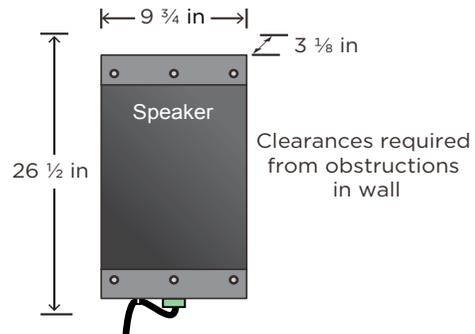

Figure 3.
2. The following clearances are required to install the speaker (with no obstruction from studs or other wall fixtures): (9 3/4 in x 26 1/2 in x 3 1/8 in) (248 mm x 675 mm x 80 mm). See Figure 3 below.
1. Place the Drywall Scoring Template onto the wall or ceiling where the speaker will be installed. As described in step 2 above, ensure no studs or other obstructions are directly behind the wall where the cuts will be made (Figure 3 above shows the clearances required).